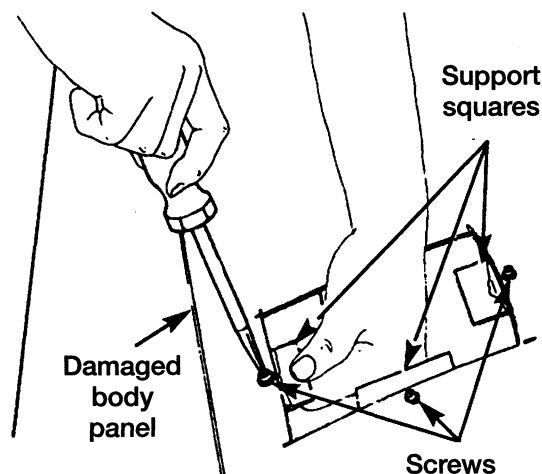

Fig. 3 Secure Support Squares to Body Panel
11. Using number 8 sheet metal screws, secure support squares to back side of body panel with epoxy sandwiched between the panel and the squares (Fig. 3).